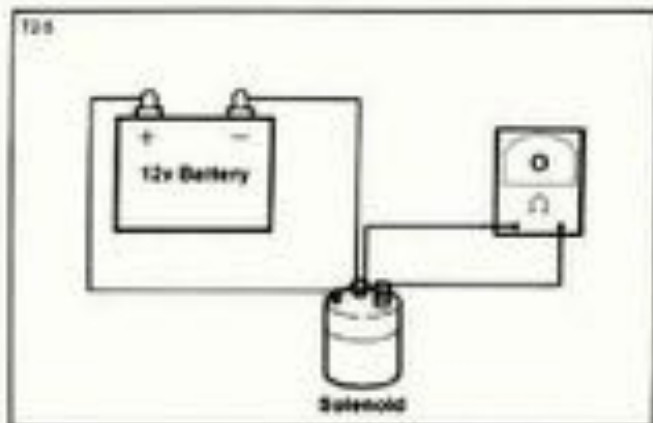

Figure 5-20. Solenoid On-Bike Test
2. See Figure 5-20. Connect a 12-volt battery with one post to the small diameter solenoid terminal and the second post to the shorter of the two larger diameter solenoid terminals.
3. See Figure 5-20. Check for continuity with an ohmmeter. With the vehicle battery disconnected and the test battery connected as shown, the ohmmeter should register zero ohms when connected across the two larger diameter terminals.